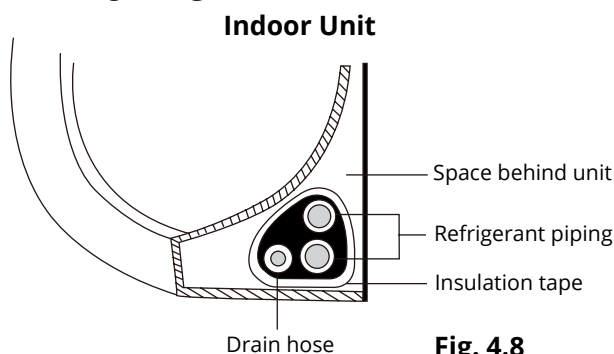

Fig. 4.8
3. Using insulation tape, wrap the signal wire, refrigerant pipes, and drain hose tightly together. Double-check that all items are bundled in accordance with **Fig. 4.8**